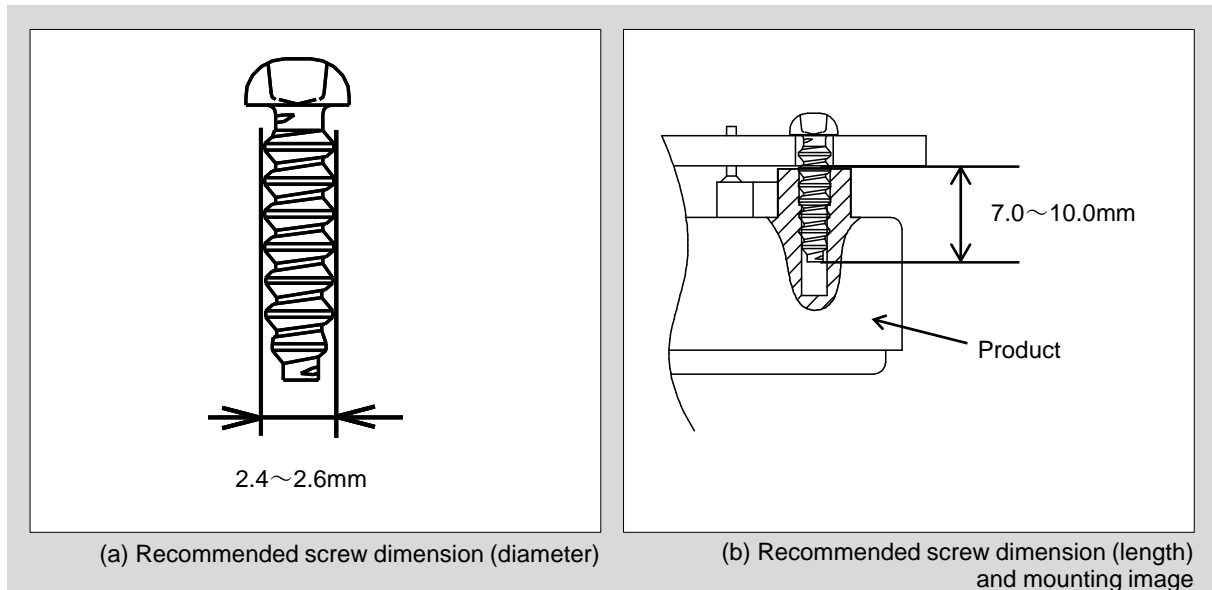

Fig.5 Recommended screw dimensions and mounting image
4. As shown in Fig.5, use screws with a diameter of 2.4 to 2.6 mm and a length of 7.0 to 10.0 mm from the underside of the PCB.